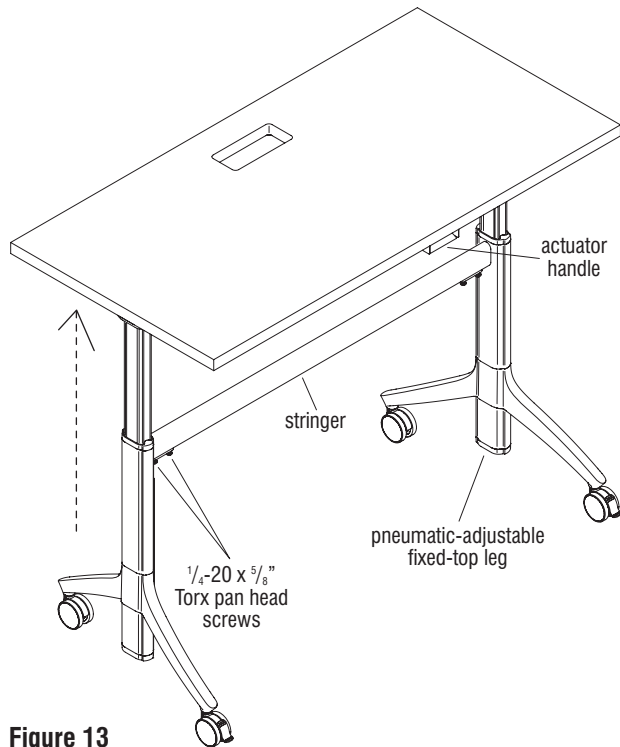

Figure 13
31. With the table in the upright position. Locate the height actuator handle at the front, user side of the table and press the actuator handle up, to automatically raise the table height at least four inches (Figure 13). One side at a time, push down on the raised tabletop over each side's pneumatic-adjustable leg (Detail V). If pressing down on each end does not cause the tabletop to lower at one of the ends, no adjustment is needed. If the tabletop lowers on one side with pressure, one or more cables are adjusted too tight, and adjustment is required. If adjustments are required, proceed to step 32 below. If no adjustments are required, proceed to "Actuator Cover Installation" instructions below.